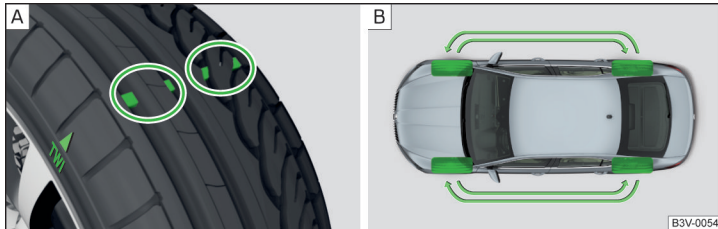

Fig. 323 Tyre wear indicator / wheel change
**Wear indicators** are located in the profile of the tyres which display the permissible minimum tread depth » Fig. 323 - [A]. A tyre is to be regarded as worn out when this indicator is flush with the tread. Markings on the walls of the tyres with the letters “TWI” or other symbols (e.g.  $\Delta$ ) indicate the position of the wear indicators.
For uniform wear on all tyres, we recommend that you **change the wheels** every 10,000 km according to the schedule » Fig. 323 - [B].